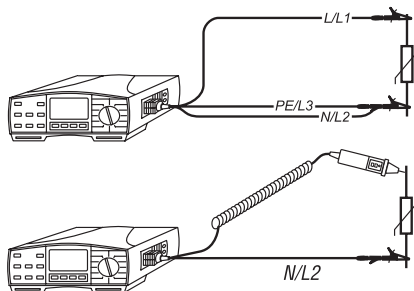

Figure 87: Connection of Test Leads
- ▶ Connect the test leads to UUT in accordance with Figure 87. If desired, this connection information can directly be retrieved on the measurement instrument using the key 'HELP'. Repeated pressing of the key 'HELP' indicates the various options for connection.